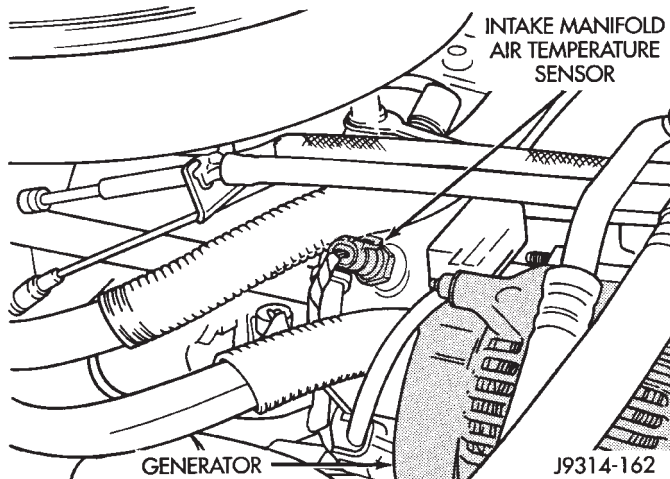

Fig. 27 Air Temperature Sensor—5.2L/5.9Engines
(12) If equipped with vacuum brake booster, verify that vacuum booster hose is firmly connected to fitting on intake manifold. Also check connection to brake vacuum booster.
(13) Inspect the air cleaner inlet and air cleaner element for dirt or restrictions.
(14) Inspect radiator grille area, radiator fins and air conditioning condenser for restrictions.
(15) Verify that the intake manifold air temperature sensor wire connector is firmly connected to harness connector (Fig. 27).